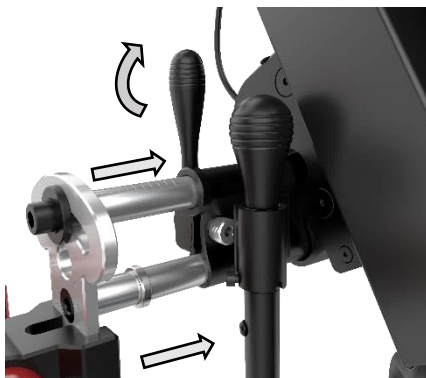

Figure 14. Assembling the Manual Clamp Assembly to the Width Adjustment Assembly
- Insert the Manual Clamp Assembly into the device with the two Width Adjusting Rods into the two receiving holes. The QR Lock Levers must be down and loose to receive the Manual Clamp Mechanism. Once the width is established it is locked upright (see Figure 14).